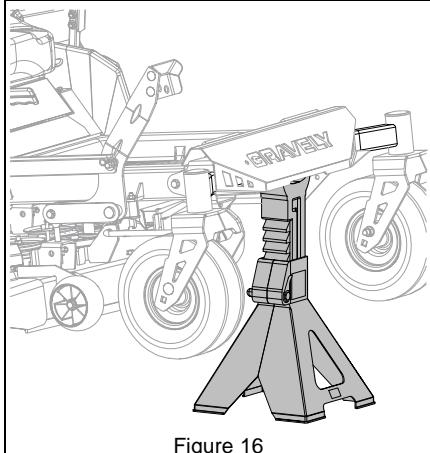

Figure 16
1. Engage parking brake. Lift front of unit and position suitable jack stand or support under front of unit. See Figure 16.